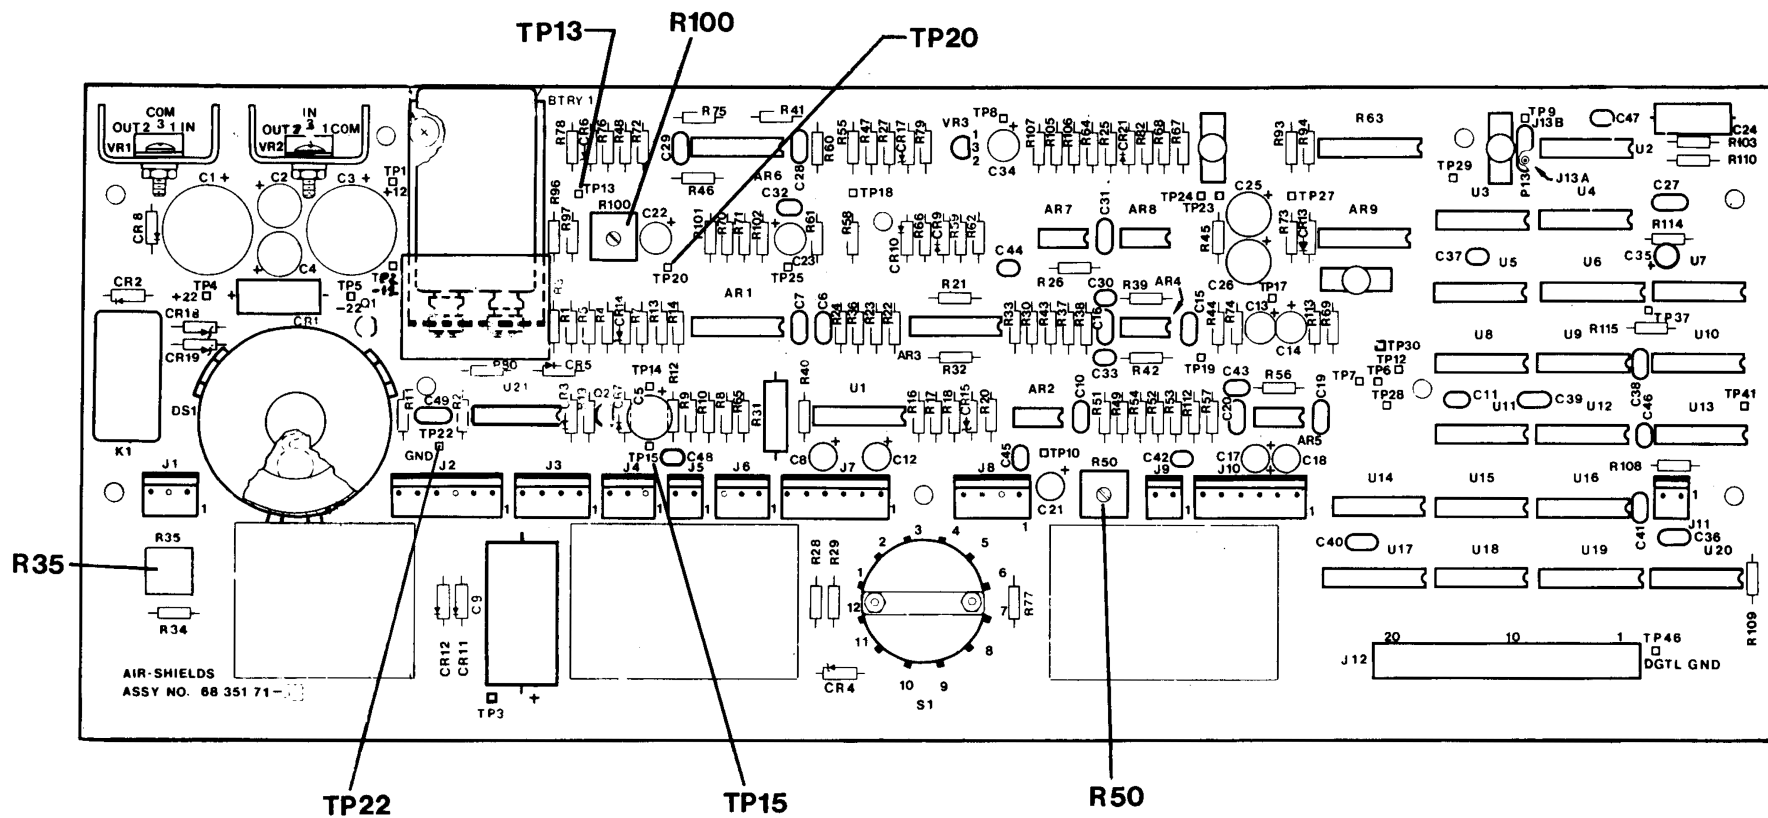

FIGURE 5.1 PCB2 (MODEL C100), LOCATION OF TEST POINTS AND ADJUSTMENTS
3. On the Simulator, set the MODE switch to AIR and the TEMP switch to 36°C . Refer to Figure 5.1 for location of test points and adjustments.
1. Refer to Figure 5.1 and connect the DVM between TP20 (+) and TP22 on PCB2.